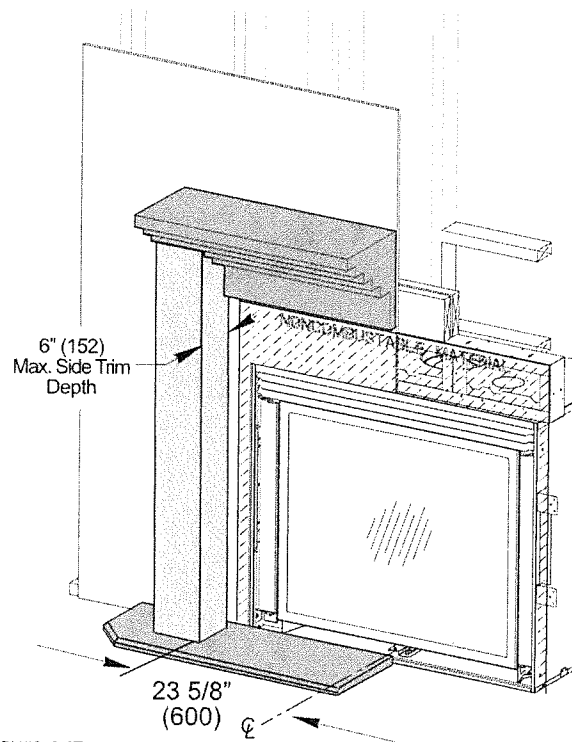

Figure 4.17
**Minimum Clearances:** See figs. 4.17 - 4.18.